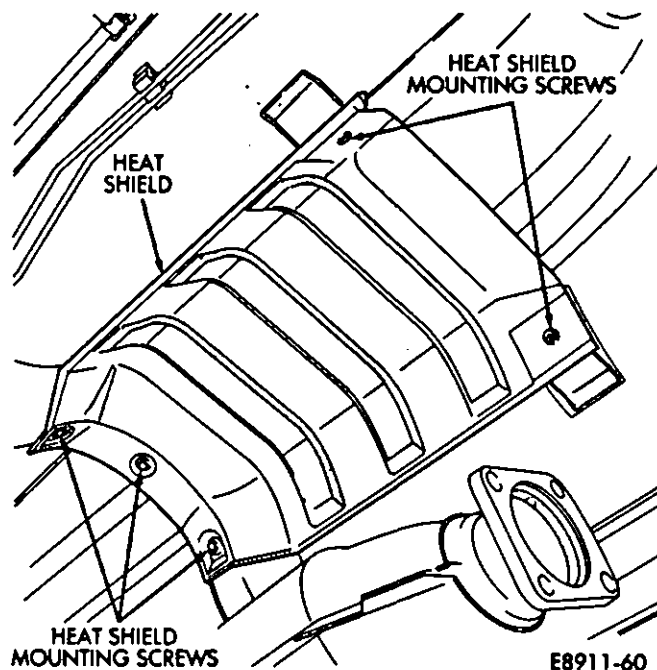

Fig. 12—Heat Shield Removal/Installation
- (3) Loosen the heat shield mounting screws and remove the shield (Fig. 12).
- (1) Install the heat shield (Fig. 12). Tighten the heat shield mounting screws.